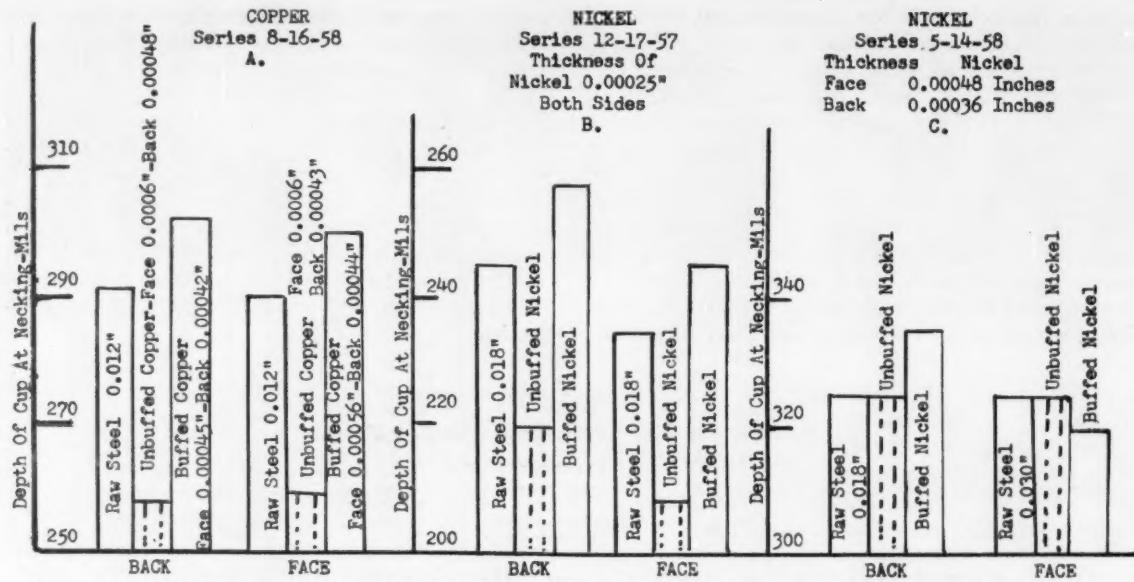
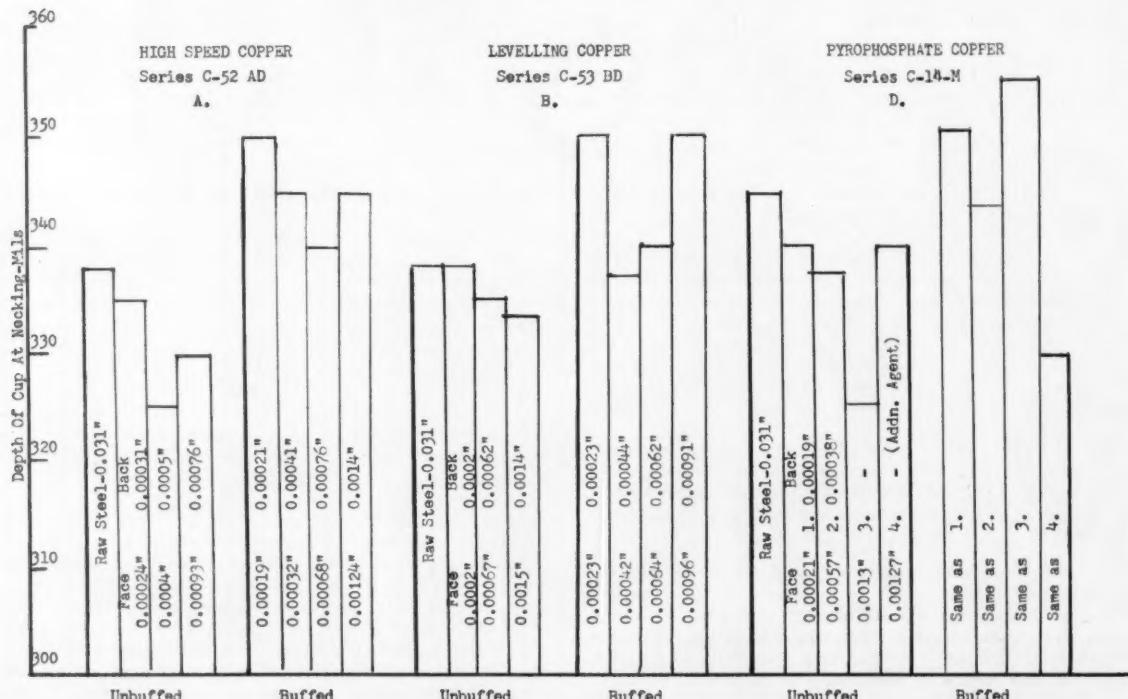

Fig. 4. Effect of buffering. Sets A and B tested same day as plated, set C tested several days after plating.
Fig. 5. Effect of buffering on proprietary copper deposits.
B. The low results represent the cup on test panels prior to buffing. The high values were obtained on adjacent panels after buffing. Aged, unbuffed, ductile material usually results in values approaching those of the buffed product. (See Fig. 4.)
These tests also indicate that the deposit thickness distribution on both sides does not affect the depth of the cup if the deposit is ductile. The results on brass deposits correspond to those obtained with nickel. The effect of buffing ductile deposits, in general, is to increase the depth of cup over that of the unbuffed deposit. Fig. 4 illustrates this. However, unbuffed material is often almost as ductile as the buffed material (group C), especially after aging. The degree and aging effect is fairly consistent for ductile deposits.
In Fig. 4 the bar graphs of copper and nickel illustrate routine tests after plating. The substantial drop in ductility of the composite shortly after plating, and the recovery after buffing, is shown in groups A and B. Group C shows the results of tests made several days after plating. The unbuffed nickel, after aging, has recovered its ductility, which is now equal to that of the unplated steel.
A similar result was noted with proprietary copper and nickel deposits. Fig. 5 shows the effect of the thickness of deposit and ductility on buffed and unbuffed proprietary copper deposits. The time elapsing between the plating and testing was a week or more. As this material has aged, the loss in ductility prior to buffing is not as great as that illustrated in Fig. 4, groups A and B. The general trend is for unbuffed deposits to show a decrease in ductility as the deposit thickness is increased.
Variations from the trend are not significant, as the actual time of aging was not known. Buffing the copper resulted in increased ductility, the increase also being independent of the thickness on these ductile proprietary copper deposits. The pyrophosphate copper values in group D, Fig. 5, indicated that the copper deposited from this bath were as ductile as those produced in the cyanide baths. The last set of pyrophos-
phate copper plated panels in group D, No. 4, in Fig. 5, with the lower results after buffing, were identified as having been produced in a bath to which a brightening agent had been added.
Fig. 5 A presents several proprietary nickel deposits. The electroless nickel data could indicate a fairly ductile deposit when buffed. However, the entire surface of the dome was badly cracked on all specimens. Apparently, the severe cracking of this structureless nickel does not penetrate the base appreciably to cause notch propagation.